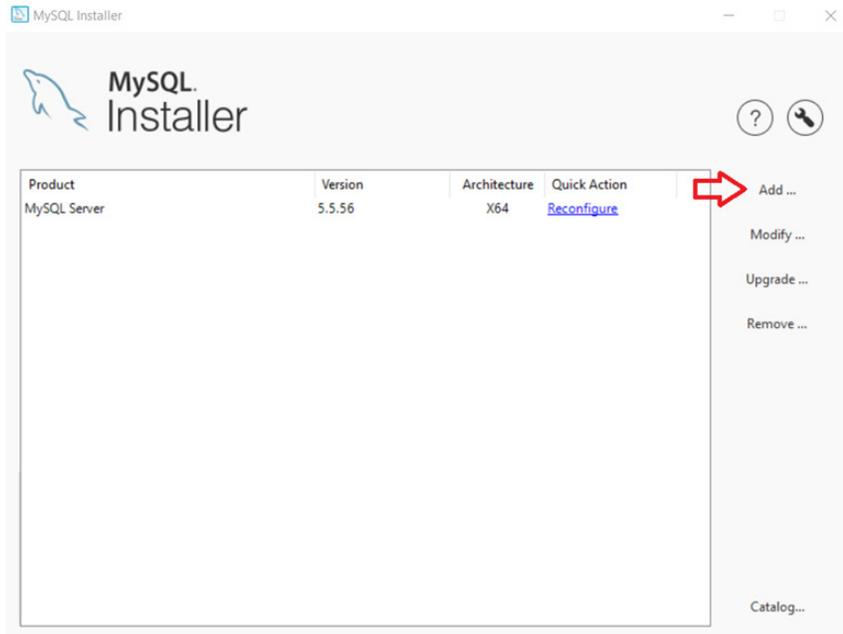

Figure A2
- When the "When the MySQL Installer" appears, click "Add" if the installed version is lower than 8.0. (Figure A2)